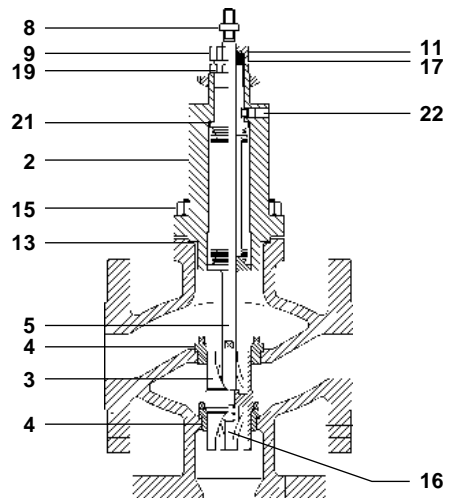

Fig. 9 Mixing valve
4.3.2 Procedure for renewing valve plug, seats and bellows assembly on mixing valves (Refer to Figure 9)